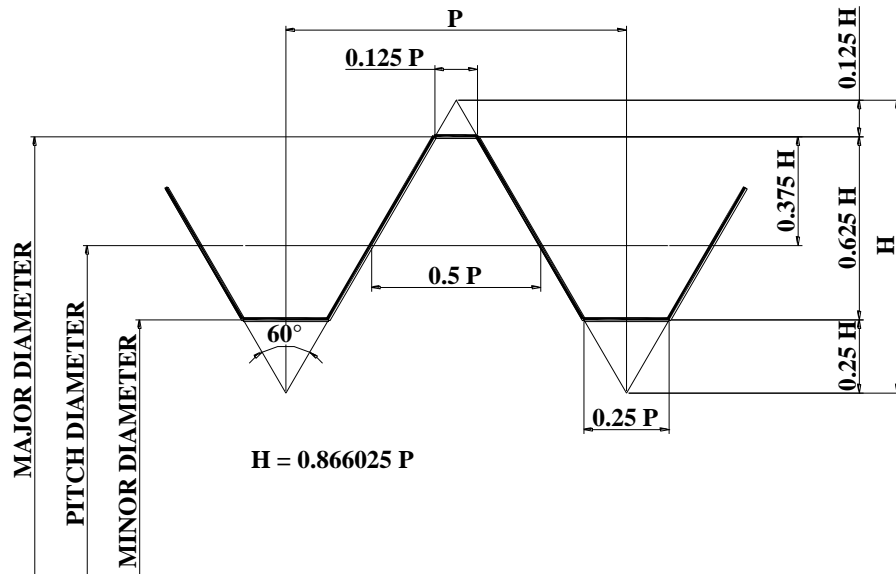

FIGURE T6.1: METRIC THREAD
1. 1. DRAW THE METRIC THREAD, AS SHOWN IN *FIGURE T6.1*, TAKING SUITABLE VALUE OF PITCH.